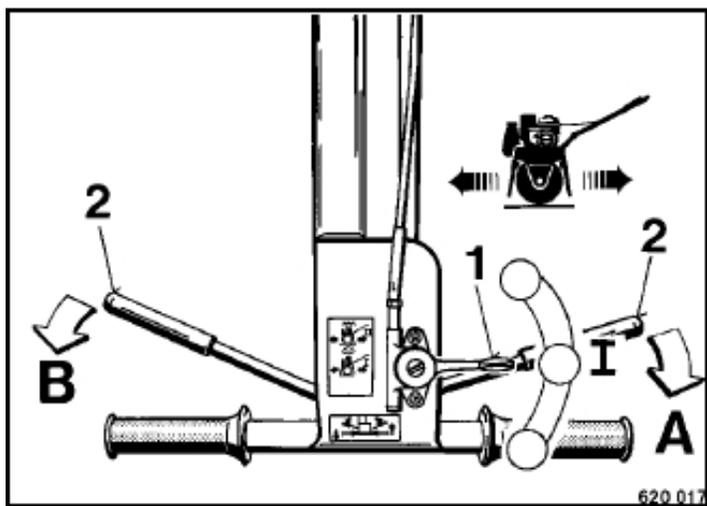

Fig. 14
- 1 Throttle lever 1 (Fig. 14) in position "I" (detent for travel position).
- 1 Choose the desired travel direction by means of the travel control lever (2).